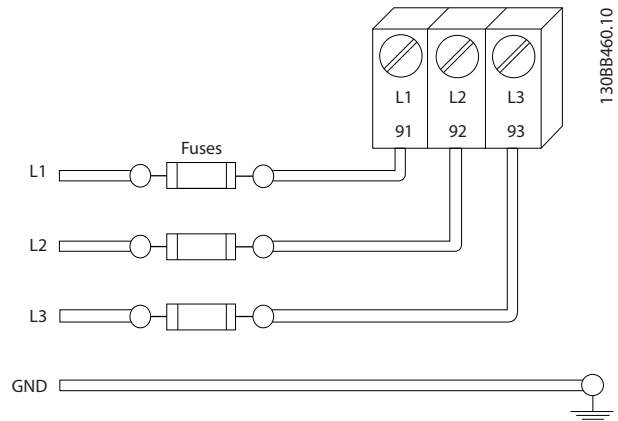

Figure 2.6 Adjustable Frequency Drive Fuses
- All adjustable frequency drives must be provided with short-circuit and overcurrent protection. Input fusing is required to provide this protection, see *Figure 2.6*. If not factory supplied, fuses must be provided by the installer as part of installation. See maximum fuse ratings in *10.3 Fuse Tables*.